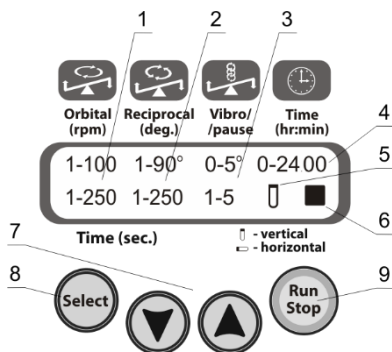

Figure 2. Multi Bio RS-24
5.3.4 Press the **Run Stop** key (fig. 2/9 or 3/9) to start the program.
5.3.5 The platform motion begins, and the corresponding indication is shown on the display: icon ► (fig. 2/6 or 3/6), the changing time values of the current movement type in seconds (fig. 2/1–2/3 or 3/1–3/3, lower line) and the operation timer in hours and minutes (fig. 2/4 or 3/4).
5.3.6 If the operation timer is not set and display shows 0:00 (fig. 2/4 or 3/4), pressing the **Run Stop** key causes continuous operation of the rotator until the **Run Stop** key is pressed again.
5.3.7 If the operation timer is set, after timer expires, the platform movement stops, display shows flashing indication ■ (fig. 2/6 or 3/6) and the unit sounds a signal about the end of operation. Press the **Run Stop** key to stop the signal.
- 6.1 Press the **Select** key (fig. 2/8 or 3/8) to choose the parameter to change. The active parameter is flashing.
- 6.2 Use the ▼ and ▲ keys (fig. 2/7 or 3/7) to set the necessary value. If the key is pressed for more than 2 s, the numerical values change quicker.
- 6.4 The countdown timer (fig. 2/4 or 3/4) is used to control the operation time. The timer can be set for the period from 1 min to 24 hours.
When the tube icon (fig. 2/5 or 3/5) is in vertical position, reciprocal rotation starts from tubes in vertical position (platform in horizontal position).